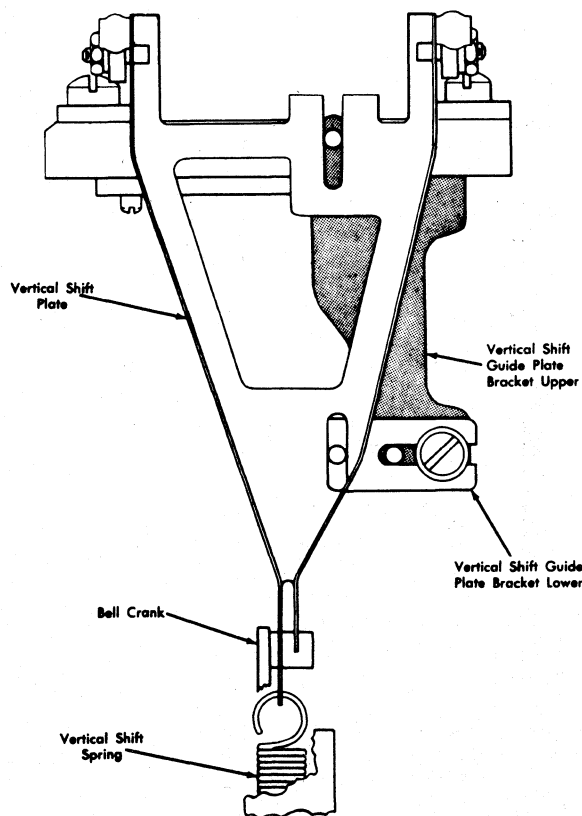

Figure 82. Code Plate Adjustment
4. Back out the two stop adjusting screws so that shifting mechanism does not hold code plate (Figure 82).
2. Transfer vertical shift plate spring to hole in bell crank (Figure 82).